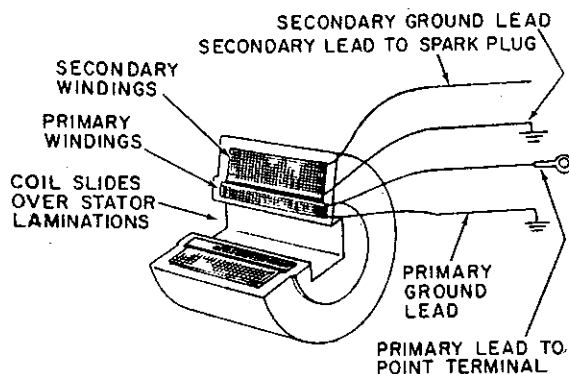
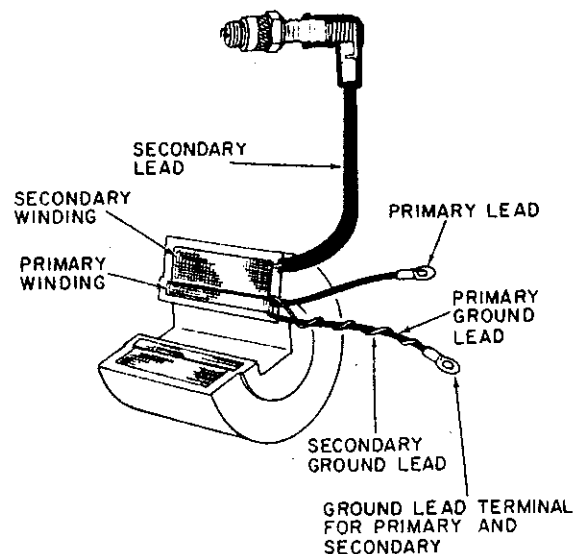

Figure 2
Figure 3
- E. The ignition coil consists of two coil windings that are hermetically sealed within a plasticlike casing. (See Figure 2.)
- (1) The primary winding consists of a few turns (about 50) of comparatively heavy-gauge wire wrapped around the center receptacle hole for the stator laminations. One lead is connected to the insulated movable contact point terminal and the other lead is grounded to the stator body. The primary circuit is the low-voltage (300-400 volts) circuit that is used as a transformer to increase the voltage in the secondary or high-voltage circuit (10,000-20,000 volts).
- (2) The secondary winding is of extremely fine wire with many turns (about 10,000) wrapped over the primary windings. One lead connects the spark plug and the other is grounded to the stator body. (See Figure 3.) The ground (also known as the "common") provides the return path to complete each circuit.